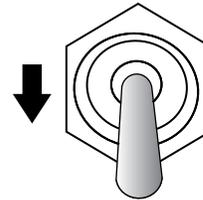

Figure 172. Control Power Switch (OFF)
8. After all of the engines have completely stopped, place the **Control Power switch** (Figure 172) in the **OFF** (down) position on generator #1.